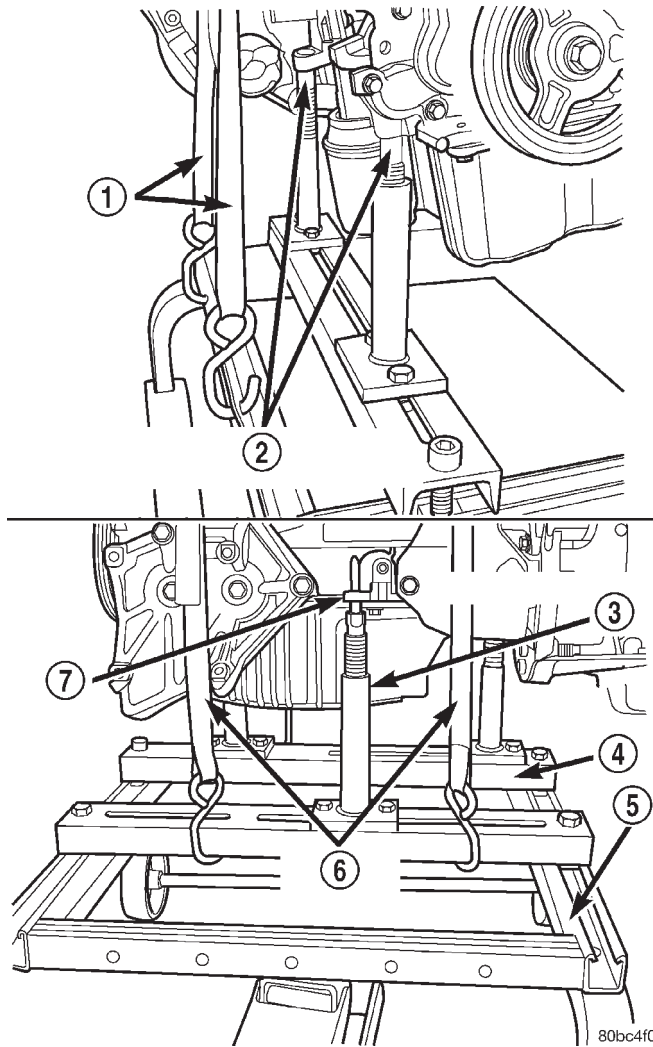

Fig. 26 Positioning Engine Cradle Support Post
(19) Hoist vehicle and remove right inner splash shield.
(20) Drain engine oil.
(21) Remove front wheels.
(22) Remove axle shafts. Refer to Group 3, Differential and Driveline for procedure.
(23) Disconnect exhaust system from manifold.
(24) Disconnect the downstream oxygen sensor connector.
(25) Remove lower engine torque strut.
(26) Remove structural collar. Refer to procedure in this section.
(27) Lower vehicle and remove A/C compressor.
(28) Raise vehicle enough to allow engine dolly and cradle, Special Tools 6135 and 6710 to be installed under vehicle.
(29) Loosen engine support posts to allow movement for positioning onto engine locating holes and flange on the engine bedplate. Lower vehicle and position cradle until the engine is resting on support posts (Fig. 26). Tighten mounts to cradle frame. This will keep support posts from moving when removing or installing engine and transmission.
(30) Install safety straps around the engine to cradle (Fig. 26). Tighten straps and lock them into position.